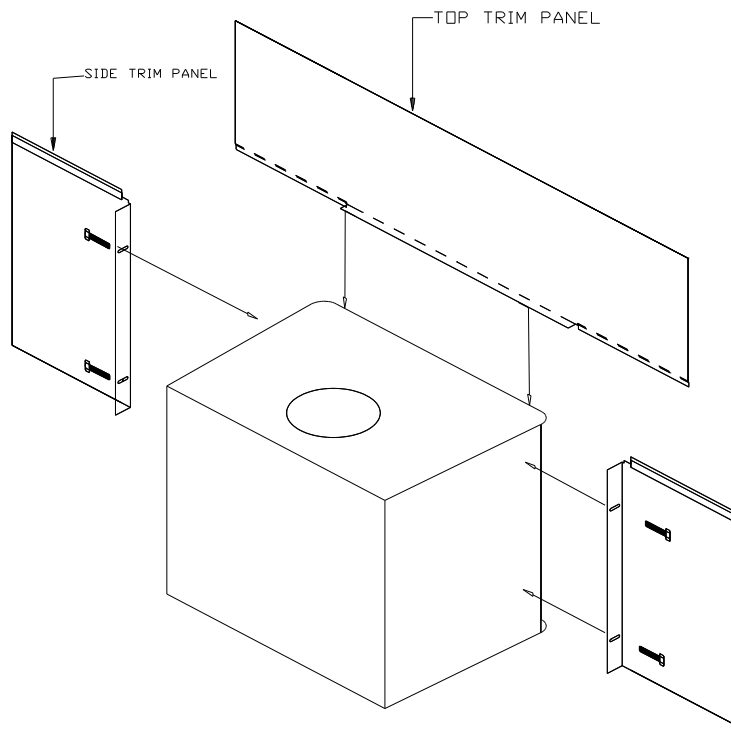

Figure 2
4. Mount the side trim panels. (See Figure 2.)